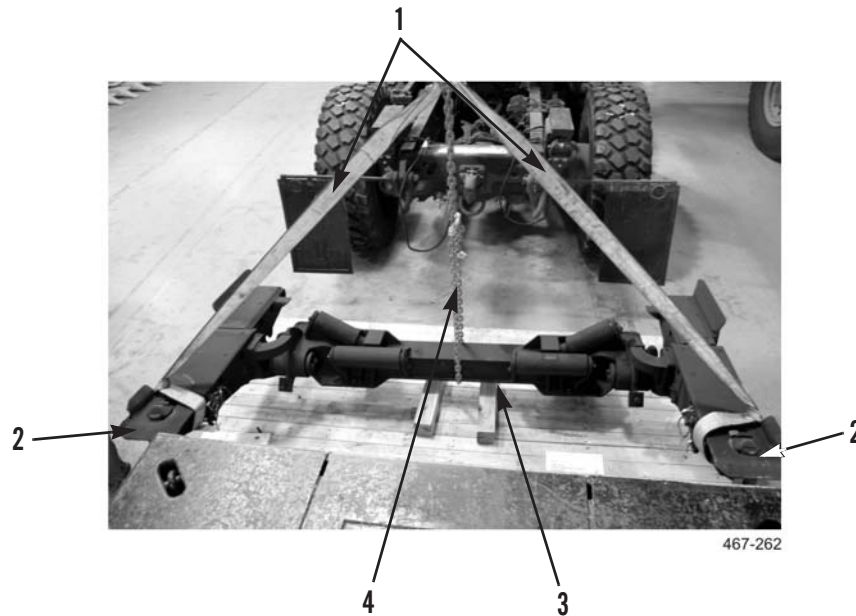

Figure 37. Slider Assembly With Straps
5. Attach sling and lifting device to slider assembly. Loop one strap (Figure 37, Item 4) around center of beam (Figure 37, Item 3) and two straps (Figure 37, Item 1) around right and left twistlocks (Figure 37, Item 2). Adjust placement of straps until slider assembly is level when raised.